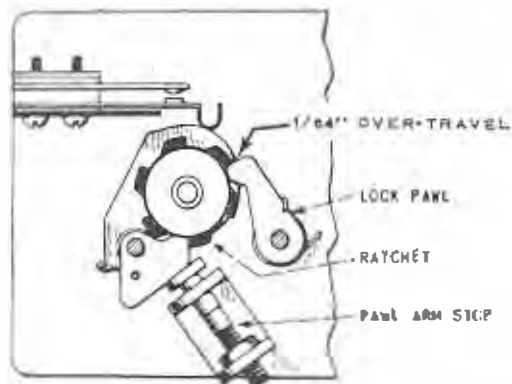

Figure 3.
1. The Pawl Arm Stop limits the rotation of the credit switch when the Cancel Solenoid plunger returns to normal rest position. It should be adjusted so the credit switch rotates far enough to allow the Lock Pawl to fall into the ratchet and have approximately 1/64" overtravel. The adjustment must be checked at all six positions of the credit wheel and the ratchet. After adjustment, set the locknut tight. See Figure 3.